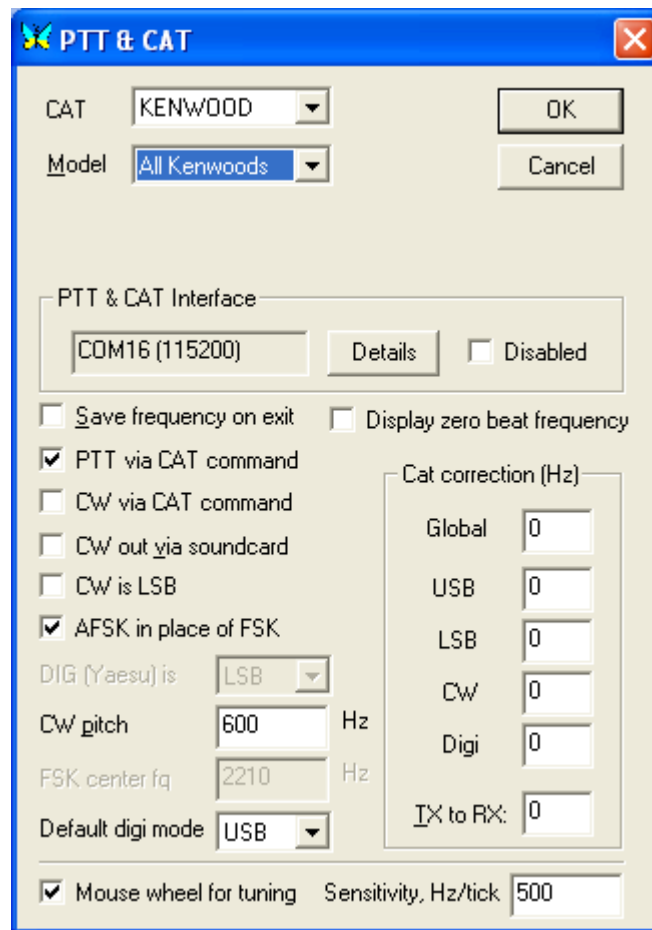

Figure 144: MixW PTT & CAT
3. In MixW, click **Configure** on the Menu bar and then select **TRCVR CAT/PTT** to open the screen shown in Figure 144.